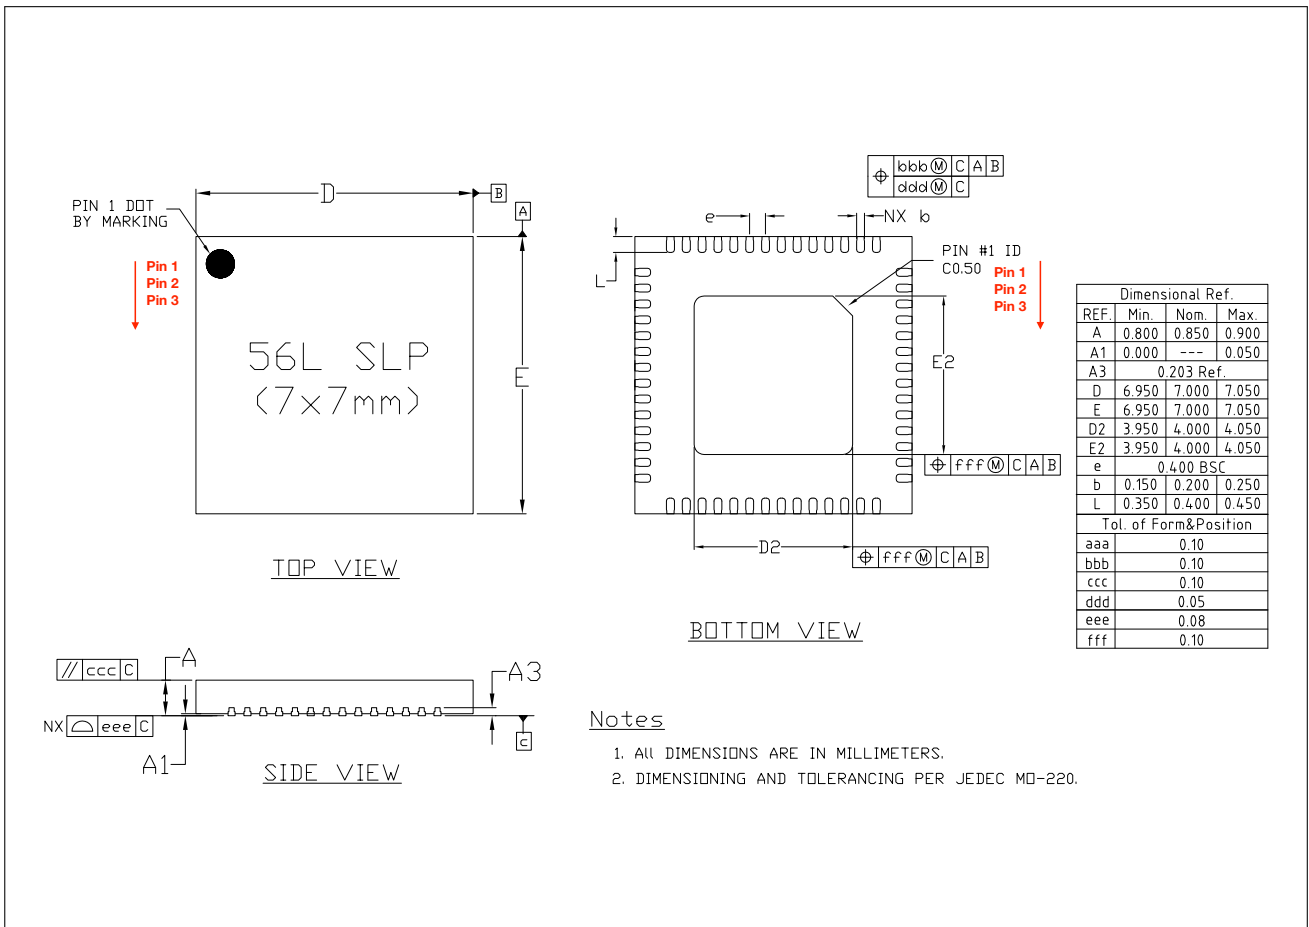
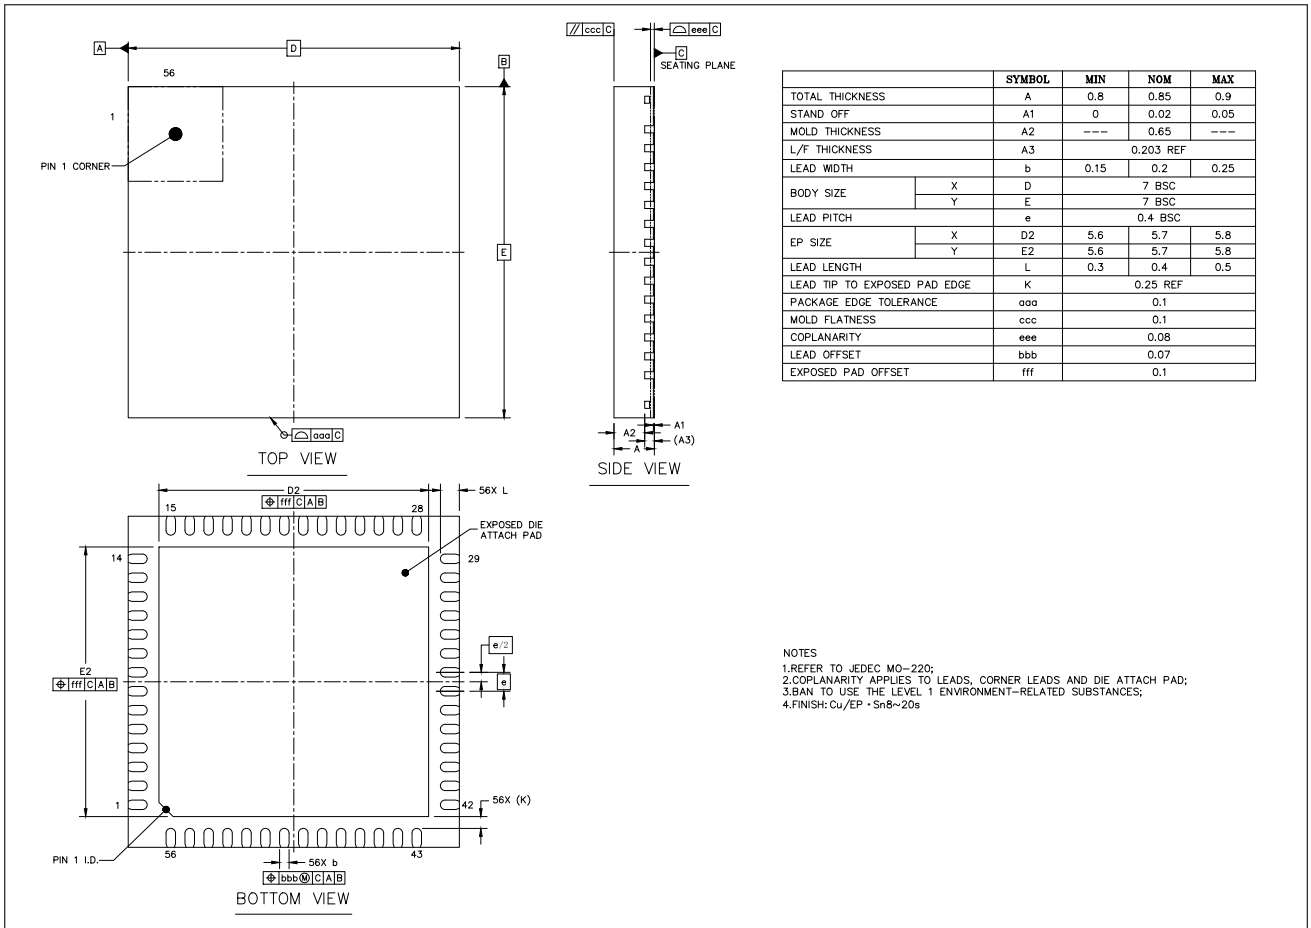

Figure 7-1. QFN56 (7×7 mm) Package
Figure 7-2. QFN56 (7x7 mm) Package (Only for ESP32-S3FH4R2)
- All ESP32-S3 chip variants have identical land pattern (see Figure 7-1) except ESP32-S3FH4R2 has a bigger EPAD (see Figure 7-2). The source file \(dxf\) may be adopted for ESP32-S3FH4R2 by altering the size of the EPAD (see dimensions D2 and E2 in Figure 7-2).